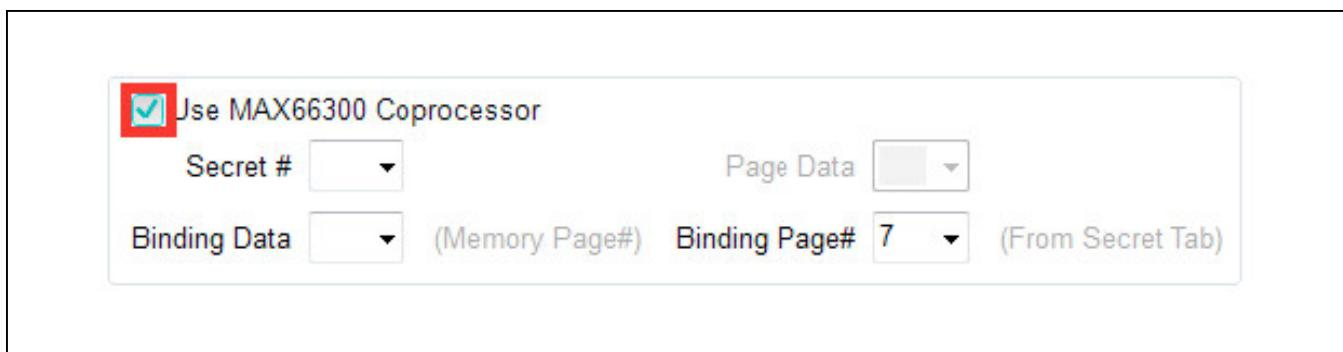

Figure 33. Using MAX66300 Coprocessor
- 3) Check the **Use MAX66300 Coprocessor** (Figure 33). **Note:** If this function is not checked, the software would use the PC to perform the authentication computations.